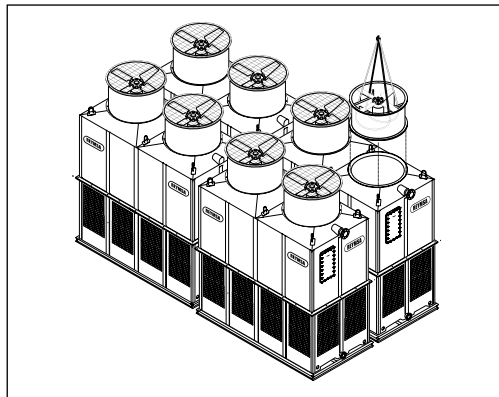

Figure A-81: Fan Duct installation for a Modular Tower (RTM or RTPM Models)
- I. Follow the same instructions to place the remaining fan ducts (see figure A-81).